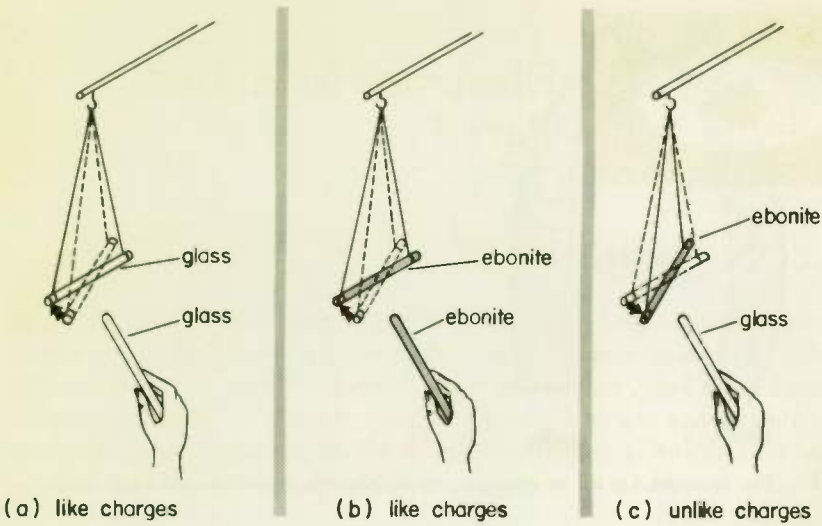
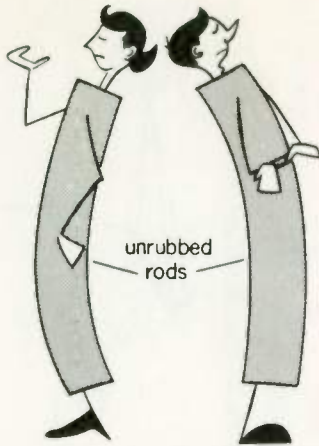

Fig. 1
Fig. 2 The unrubbed glass or ebonite rods neither repel nor attract each other.
1. When a glass rod is rubbed with silk, the rod becomes positively charged. When two glass rods rubbed with silk are brought close together as shown in Fig. 1(a), they ^(a) *attract* *repel* each other. This is because both rods are ^(b) *positively* *negatively* charged and therefore have ^(c) *like* *unlike* charges. Like charges ^(d) *REPEL* each other.
2. When an ebonite rod is rubbed with fur, it becomes negatively charged. When two ebonite rods rubbed with fur are brought close together, as shown in Fig. 1(b), they ^(a) *REPEL* each other. This is because ^(b) *LIKE* charges repel each other.
3. When a charged ebonite rod and a charged glass rod are brought close together, as shown in Fig. 1(c), they ^(a) *ATTRACT* each other.
2 WHAT ELECTRIC CHARGES ARE . . . Suppose we take two glass or two ebonite rods, such as those used to demonstrate the presence of electric charges in Fig. 1, and we do not rub them with silk or fur, respectively. When these unrubbed rods are placed near each other they neither attract nor repel each other (see Fig. 2). Why is this so, and how did the act of rubbing produce the electric charges? To answer these questions, we must leave the rods momentarily and take a quick look at the structure of matter.